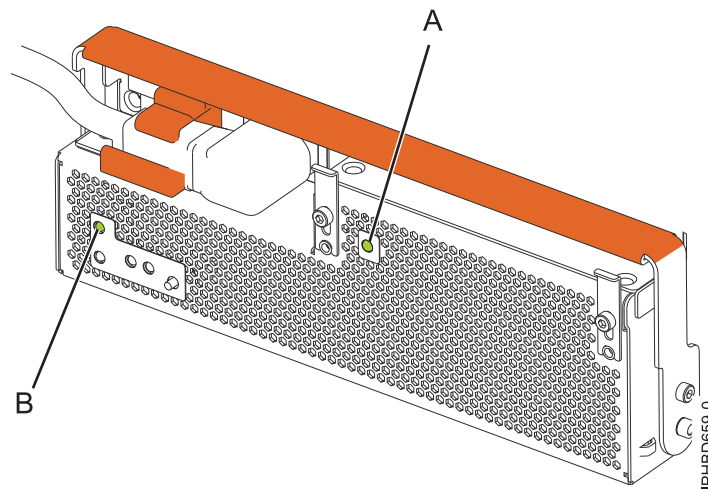

Figure 25. Expansion unit ac power and OCA power LEDs
10. Note the state of the green ac power in (A) and Offline Converter Assembly (OCA) power (B) light-emitting diodes (LEDs) shown in Figure 25, and do one of the following actions, as applicable:
- If the LEDs indicate that the power supply is operating normally, that is, that the ac power in LED (A) is on solid and the OCA power (B) LED is on solid or flashing, continue to the next step.